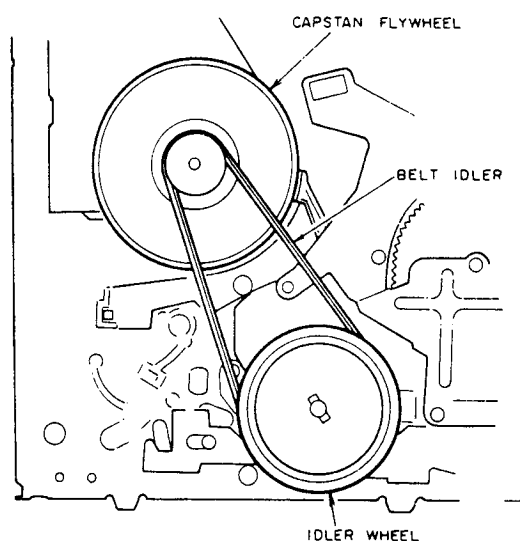

Fig. 4-20
- 11) Attach the BELT IDLER as shown in Fig. 4-20.